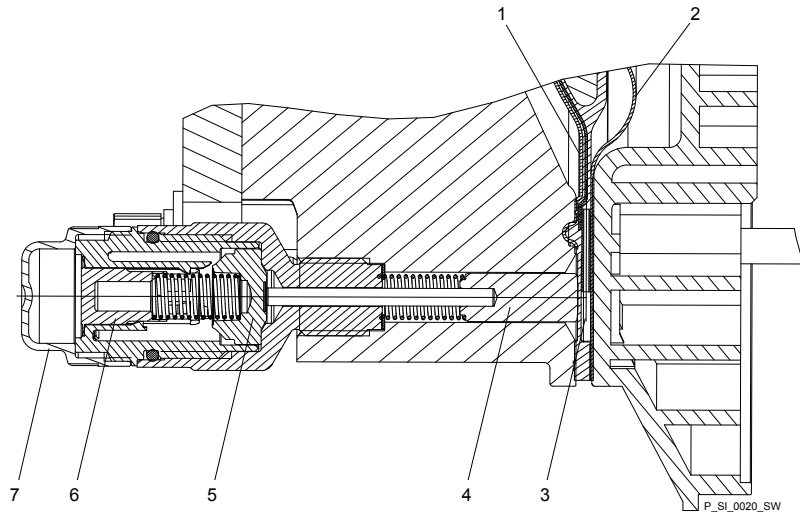

Fig. 35: Section through the Sigma diaphragm rupture warning system ("Visual break indicator" version)
2. ➤ If the piston of the diaphragm rupture sensor - see Fig. 35, item 4 - should have become dirty or damp, clean both it and the hole in which it runs.